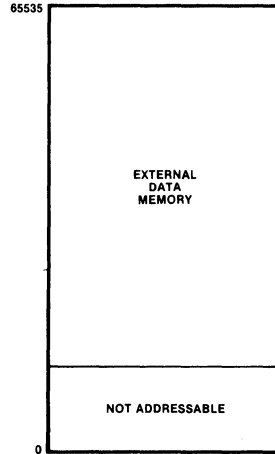

Figure 5. Data Memory Map
**Data Memory.** The Z86E11 can address 60K bytes of external data memory beginning at locations 4096 (Figure 5). External data memory may be included with or separated from the external program memory space. DM, an optional I/O function that can be programmed to appear on pin P34, is used to distinguish between data and program memory space.